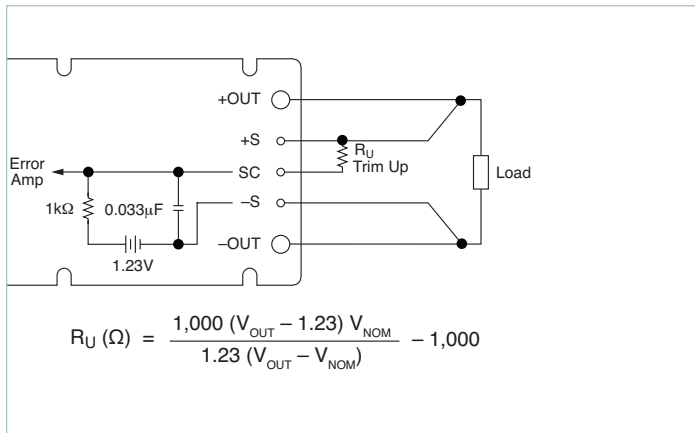

Figure 2.13a — Output voltage trim-up circuit (Maxi / Mini)
**Trim Up:** The converter is rated for a maximum delivered power. To ensure that maximum rated power is not exceeded, reduce maximum output current requirement in the application by the same percentage increase in output voltage. The trim-up resistor must be connected to the +S pin (+OUT pin on a Micro.) Do not trim the converter above maximum trim range (+10%) or the output overvoltage protection circuitry may be activated. (Figures 2.13a and 2.13b)